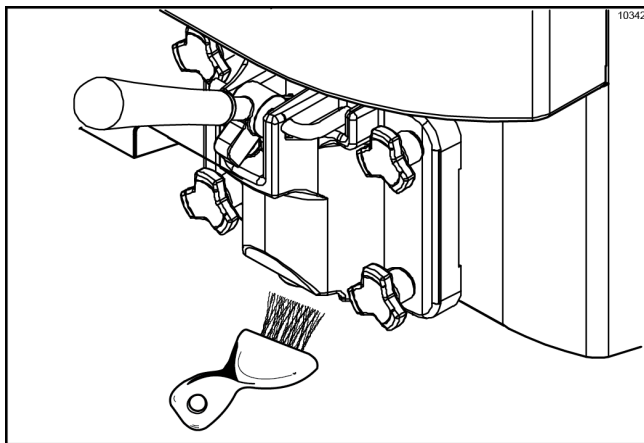

Figure-64
**Note:** To ensure sanitary conditions are maintained, brush each item for 60 seconds, repeatedly dipping the brush in cleaning solution. (See Figure-64.)